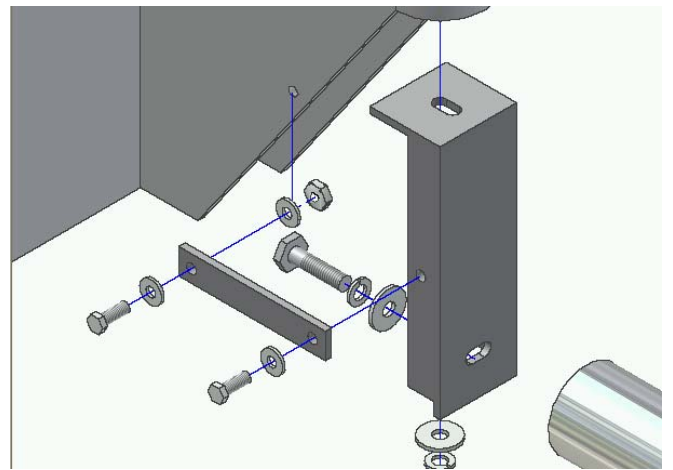

Figure 1.3 – Rear Bracket
4. Fasten Mount Brace to Rear Mount Bracket and vehicles rear body mount using (1) 10mm x 25mm bolt, (2) 10mm flat washers, 10mm split washer and (1) 10mm hex nut, for each side of Mount Brace (see Figure 1.3). Hand tighten.
5. Attach Side Tube to Front and Rear Brackets using (1) 12mm x 50mm hex head bolt, (1) 12mm split lock washer, and (1) 12mm flat washer for each bracket, and hand tighten. Adjust Side Tube so that it is level and centered, and tighten all bolts to complete the driver-side assembly.